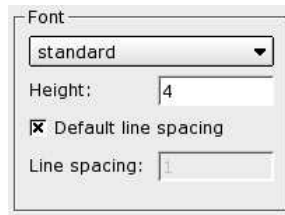

Figure 33: Font selection.
1. Choose the font name and attributes in the upper left area of the dialog (Figure 33). For a complete list of all available fonts, please refer to the appendix. In the height field, enter the height of the text in the unit of your drawing. To choose normal line spacing, click the checkbox "Default line spacing". You can increase or decrease the line spacing by disabling the checkbox and entering a value in the "Line spacing" box. The value entered is a factor relative to the default (1.0). Valid values range from 0.25 to 4.00. Values outside this range are allowed but break compatibility to other CAD programs such as AutoCAD.